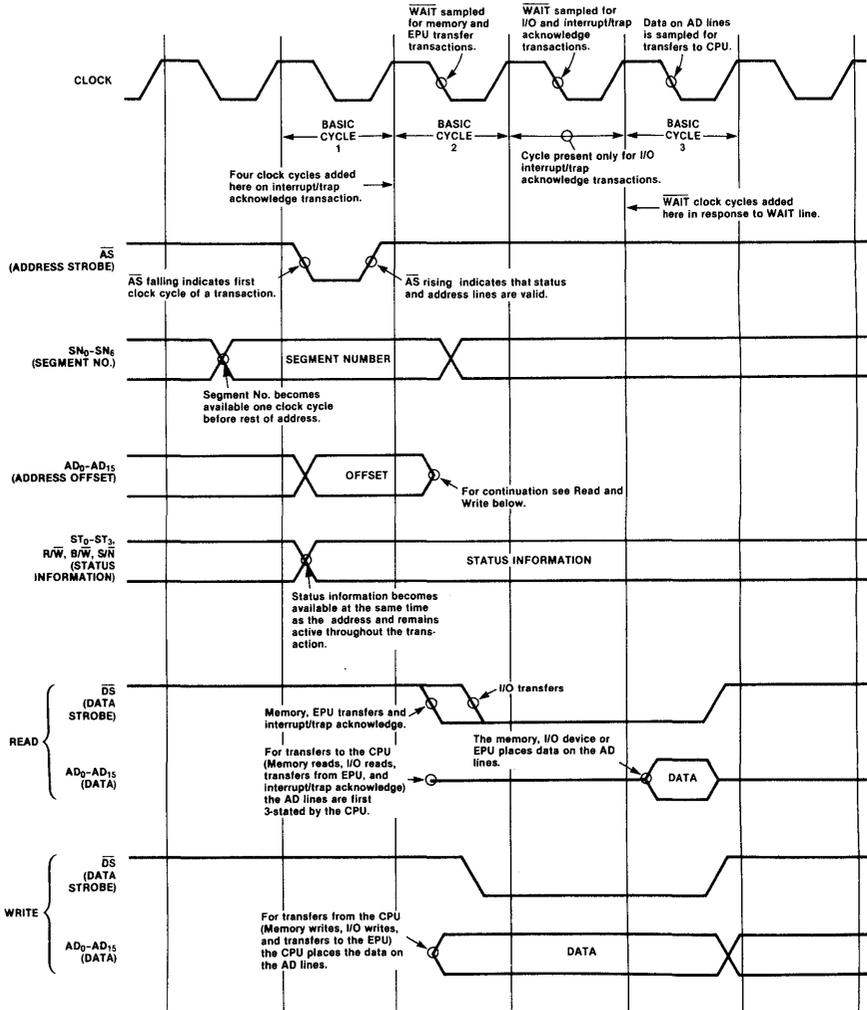

Figure 9-2. Transaction Timing
Data transfers to and from the CPU are accomplished through the use of transactions. Figure 9.2 shows the general timing for a transaction.
9.4.1 \overline{WAIT} . As shown in Figure 9.2, \overline{WAIT} is sampled on a falling clock edge one cycle before data is sampled by the CPU (Read) or \overline{DS} rises (Read or Write). If \overline{WAIT} is Low, another cycle is added to the transaction before data is sampled or \overline{DS} rises. In this added cycle and all subsequent cycles added due to \overline{WAIT} being Low, \overline{WAIT} is again sampled on the falling edge and, if it is Low, another cycle is added to the transaction. In this way, the transaction can be extended to an arbitrary length to accommodate (for example) slow memories or I/O devices that are not yet ready for data transfer.